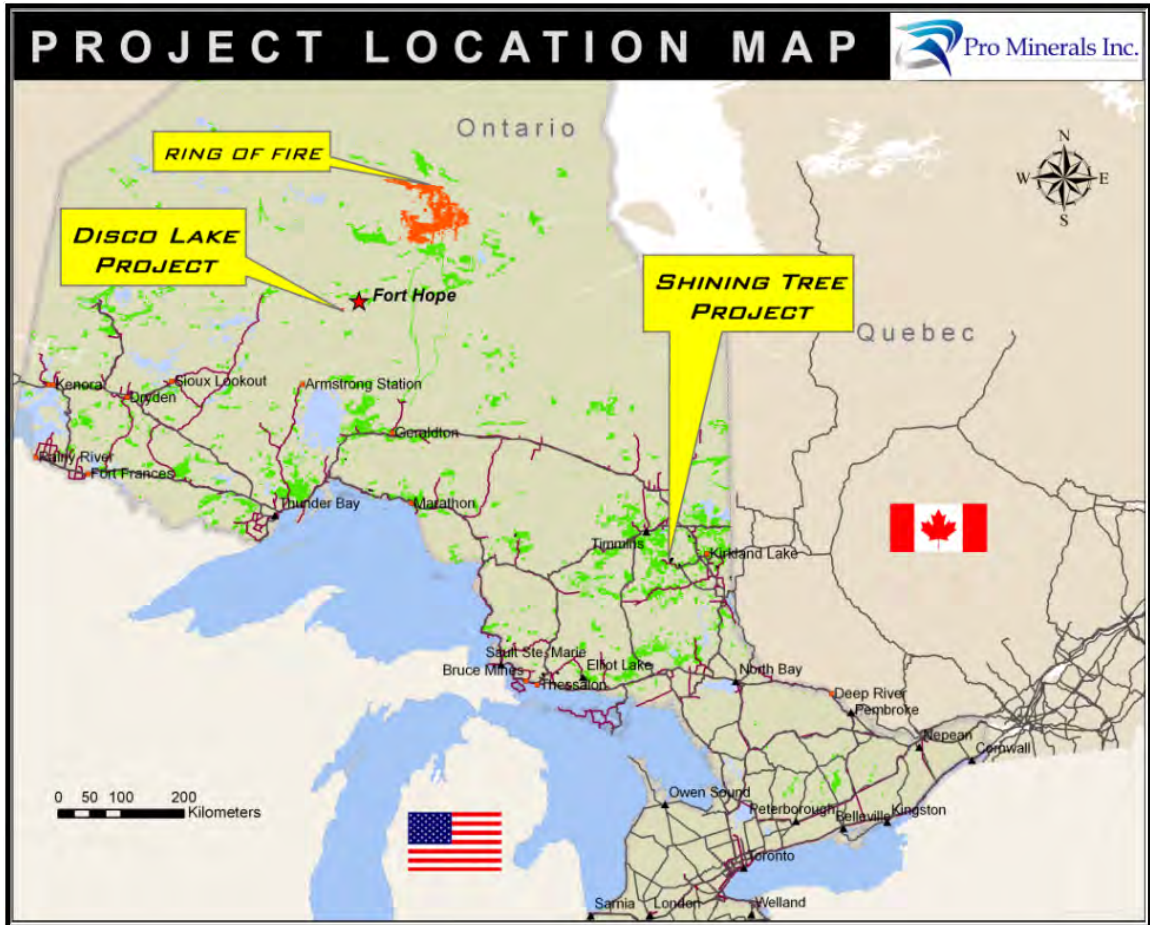

Figure 2: Project Location & Access Map
- FIGURE 2: PROJECT LOCATION & ACCESS MAP